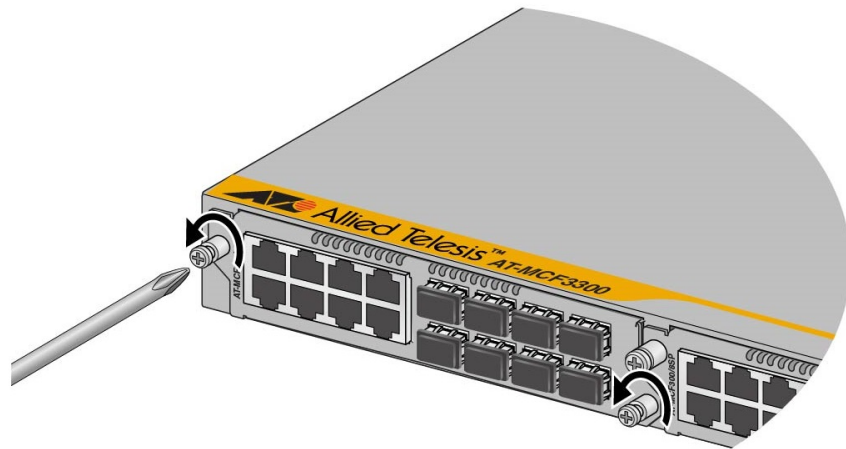

Figure 67. Loosening the Two Captive Screws on the Media Converter Module
4. Using a cross-head screwdriver, loosen the two captive screws that secure the module to the chassis. Refer to Figure 67.